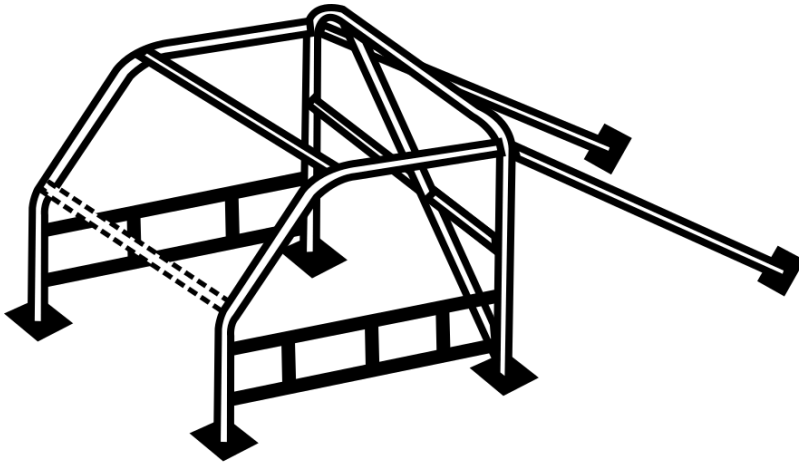

Fig. 1
- ❖ Driver side door bar design must have a minimum of two horizontal bars and three vertical connecting support bars. Passenger side door bar design must have a minimum of two horizontal bars and two vertical connecting support bars. (See Fig. 1)